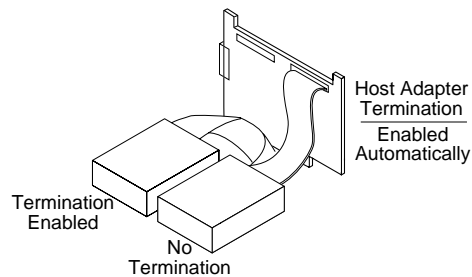

Figure 2-12. Internal Devices on SCSI Channel B
- If you attach SCSI devices to the Channel B connector, as shown in Figure 2-12, host adapter termination is automatically *Enabled*. Always connect the host adapter to the end of the internal cable.